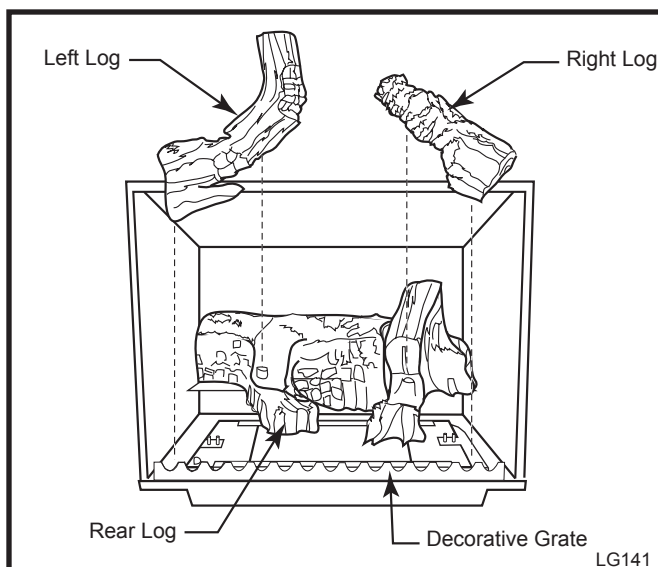

Fig. 34 Install the back, left and right logs.
2. Install the rear log centering it side to side on the sheet metal shelf at the back of the firebox. (Fig. 34) The log will touch both sides and the back wall of the firebox.
3. Install the right log by engaging hole on bottom with pin on the rear log. (Fig. 34) Then set right bottom side on the burner so the edge of the log touches the right side of the firebox. The right log does not use the locator pins on the burner to stay in place.
4. Install the left log by engaging hole on bottom with pin on rear log. (Fig. 34) Then set left bottom side on the burner so the edge of the log touches the left side of the firebox.